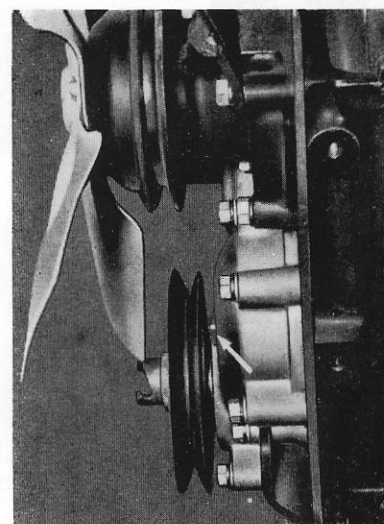

Fig. 4-52
- (1) Remove the cover from the timing gear case.
- (2) The crankshaft should be carefully rotated to bring the piston in the first cylinder to the T.D.C. in the compression stroke and to correspond the timing mark on the crank pulley with the mark on the cover. (See Fig. 4-52)